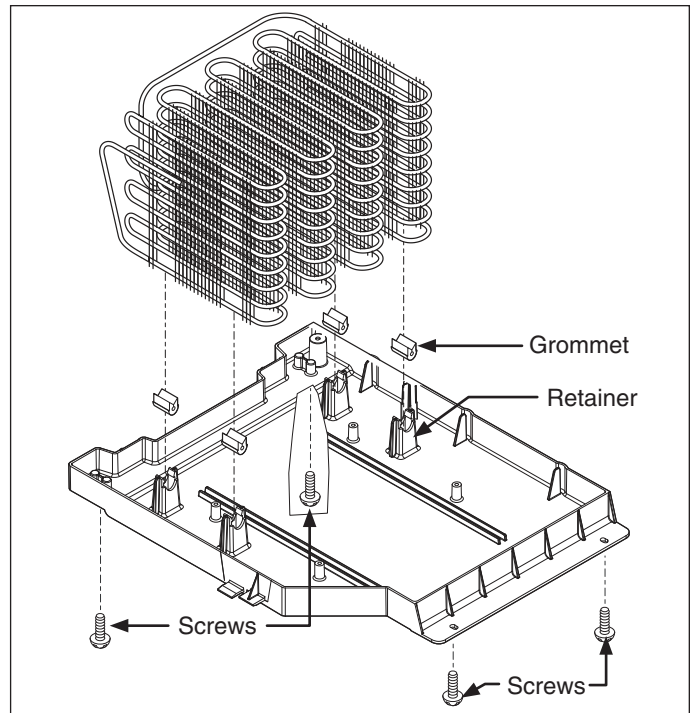

Figure 6-31. Condenser Drain Pan Removal
4. Using a short phillips head screwdriver, extract the two screws securing the drain pan to the bottom of the unit frame. (See Figure 6-31)
7. Using a short phillips head screwdriver, extract the two screws securing the drain pan to the bottom of the unit frame. (See Figure 6-31)